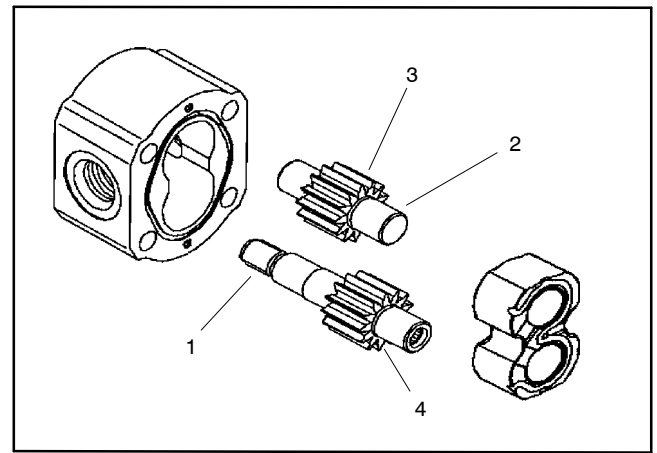

Figure 23.3
3. Inspect drive and idler shafts for the following (Fig. 23.3):